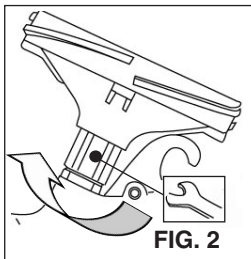

FIG. 2
- Fix CUP HOLDER to the fluid nipple of the gun and tighten firmly by using wrench (Fig.2).